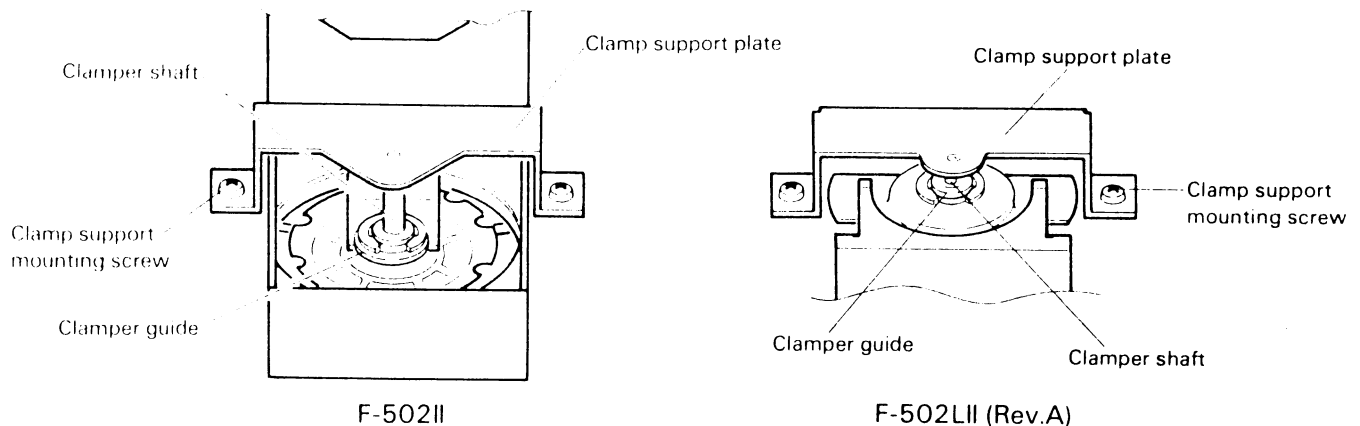

Fig. 302
4. Tighten the screws to the specified torque and apply a small amount of screw lock adhesive. See Fig. 302.